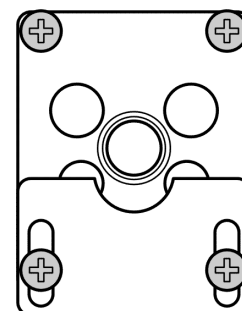

Figure 2. Aeration plate and shutter removal.
- Remove the shutter plate and aeration plate from the end of the burner. To do this remove the four screws (See figure 2)